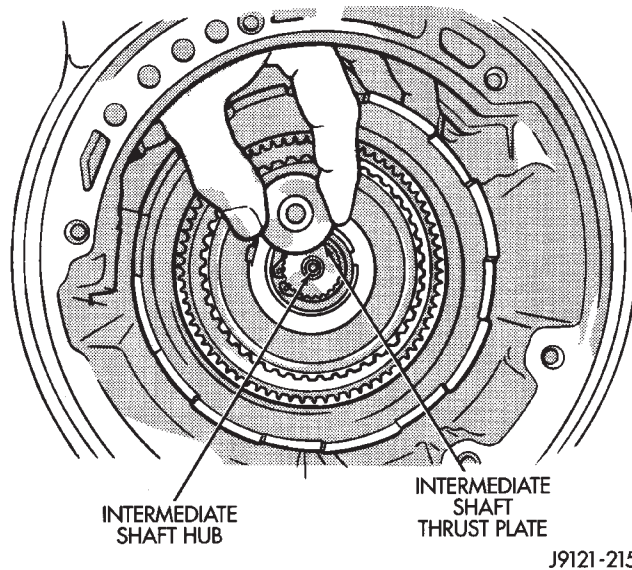

Fig. 153 Installing Intermediate Shaft Thrust Plate
(18) Install thrust plate on intermediate shaft hub (Fig. 153). Use petroleum jelly to hold thrust plate in place.